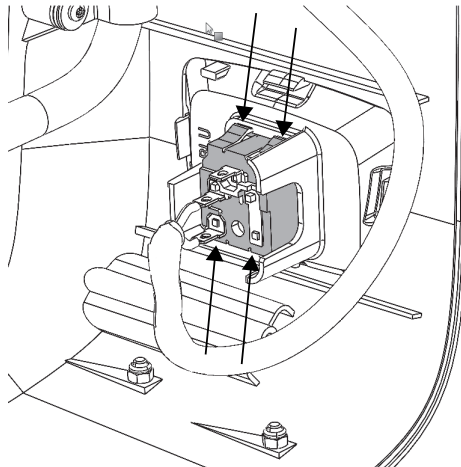

Figure 28 – Locking tabs
4. Using a small slotted screwdriver, push in and down on the four locking tabs that hold the inlet to the front cover to remove the power inlet (Figure 28). Discard the power inlet.